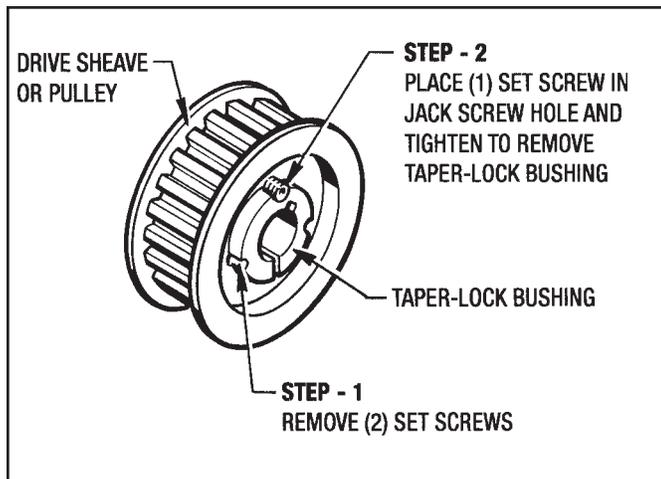

Figure 6.1 - Removal of Drive Sheaves
1. Loosen (4) Hex Nuts (#716) which holds the Drive Motor to the Adjustable Motor Base (#701). **Do not remove these Nuts**
3. Remove Drive Sheaves (#710) and (#711). The Sheaves have a Taper Lock Bushing in them. (See Figure 6.1 for Removal Procedure.)
2. Back out the (2) Jack Screws (#781) at the rear of the *Posidyne* and advance the front Jack Screw (#781) to slide the *Posidyne* back until the Drive Belt (#742) can be removed from the (2) Sheaves (#738).
3. Remove the (2) Sheaves (#738). These Sheaves also have a Taper Lock Bushing in them. (See Figure 6.1 for Removal Procedure.)